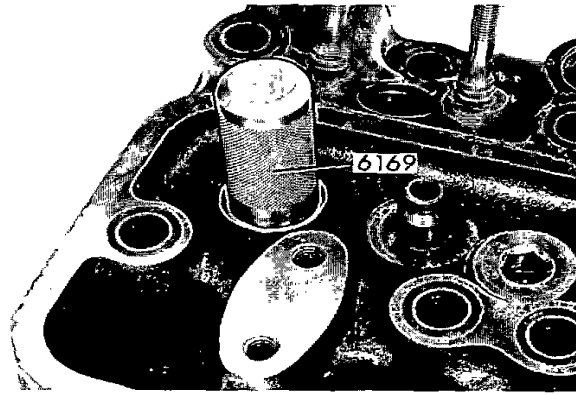

Fig. 75. Fitting a valve guide, 60 series
2. Oil in the new guides externally and press them in with the tool 6169 for the 60 series (fig. 75), and 2661 for the 70 series. The tool gives the guide the correct height above the cylinder head spring face – 23 mm (0.906") (60 series), and 22 mm (0.866") (70 series).